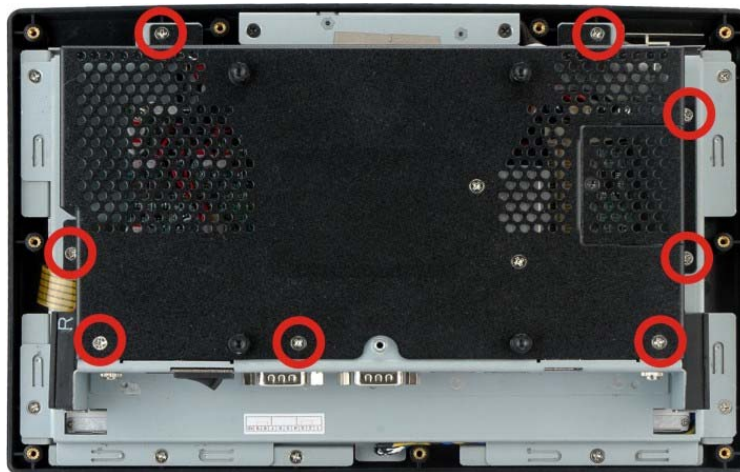

Figure 3-3: Aluminum Cover Retention Screws
Step 5: Remove the retention screws (Figure 3-3) from the aluminum cover.